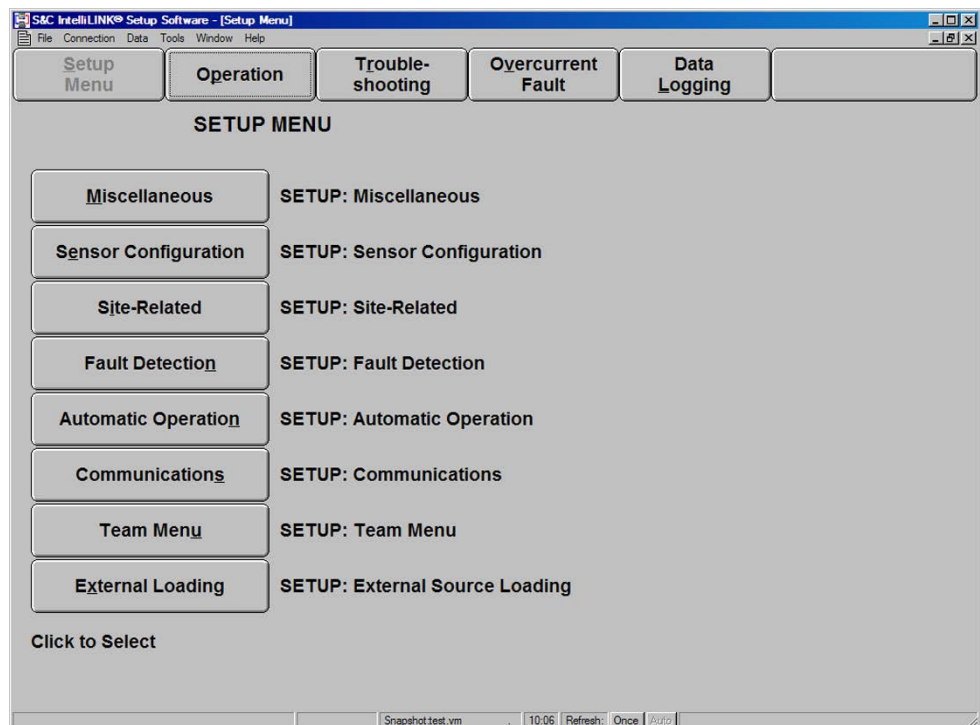

Figure 4. The *Setup Menu* screen.
STEP 2. At any IntelliLink software screen, click on the **Setup Menu** button to display the *Setup Menu* screen. See Figure 4.